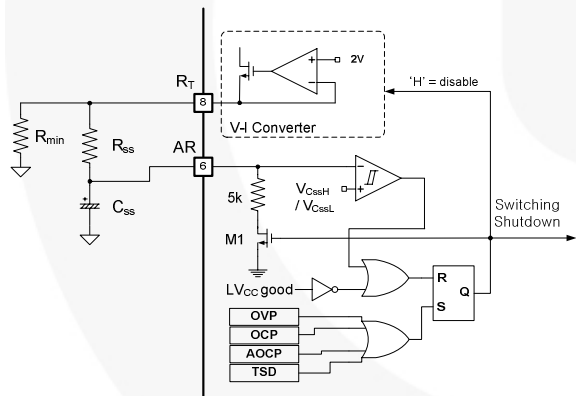
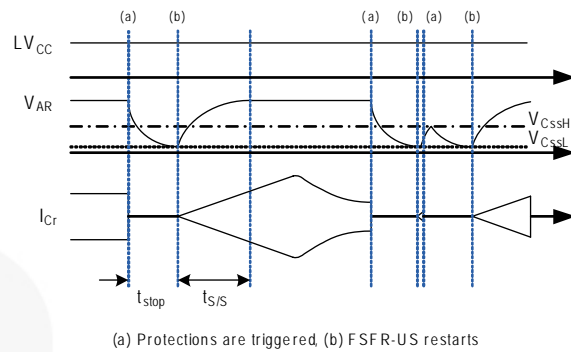

Figure 20. Internal Block of AR Pin
Figure 21. Self Auto-Restart Operation
4. Self Auto-restart: The FAN7621S can restart automatically even if a built-in protection is triggered with external supply voltage. As shown in Figure 20 and Figure 21; once any protections are triggered, M1 switch turns on and V-I converter is disabled. C_{SS} starts to be discharged until the $V_{C_{SS}}$ across C_{SS} drops to $V_{C_{SSL}}$. Then all protections are reset, M1 turns off, and V-I converter resumes. The FAN7621S starts switching again with soft-start. If the protections occur while $V_{C_{SS}}$ is under $V_{C_{SSL}}$ and $V_{C_{SSH}}$ level, the switching is terminated immediately, $V_{C_{SS}}$ continues to increase until reaching $V_{C_{SSH}}$, then C_{SS} is discharged by M1.
5. Protection Circuits: The FAN7621S has several self-protective functions, such as Over-Current Protection (OCP), Abnormal Over-Current Protection (AOCP), Over-Voltage Protection (OVP), and Thermal Shutdown (TSD). These protections are auto-restart mode protections, as shown in Figure 21.